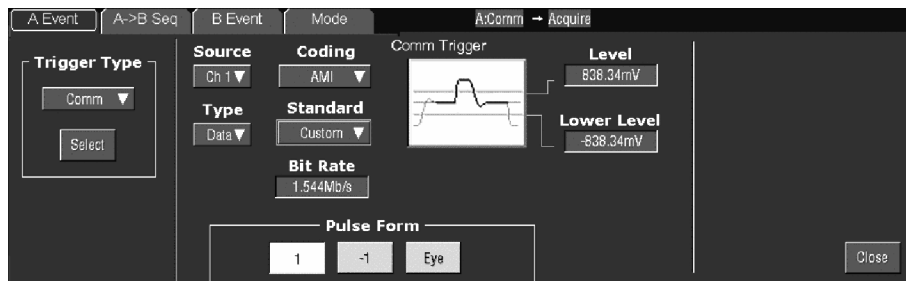

Figure 2: Communication signal trigger functions
3. Touch either of the Trigger Type buttons. Select the **Comm** Trigger Type. The instrument displays the communication signal trigger functions, as shown in Figure 2.